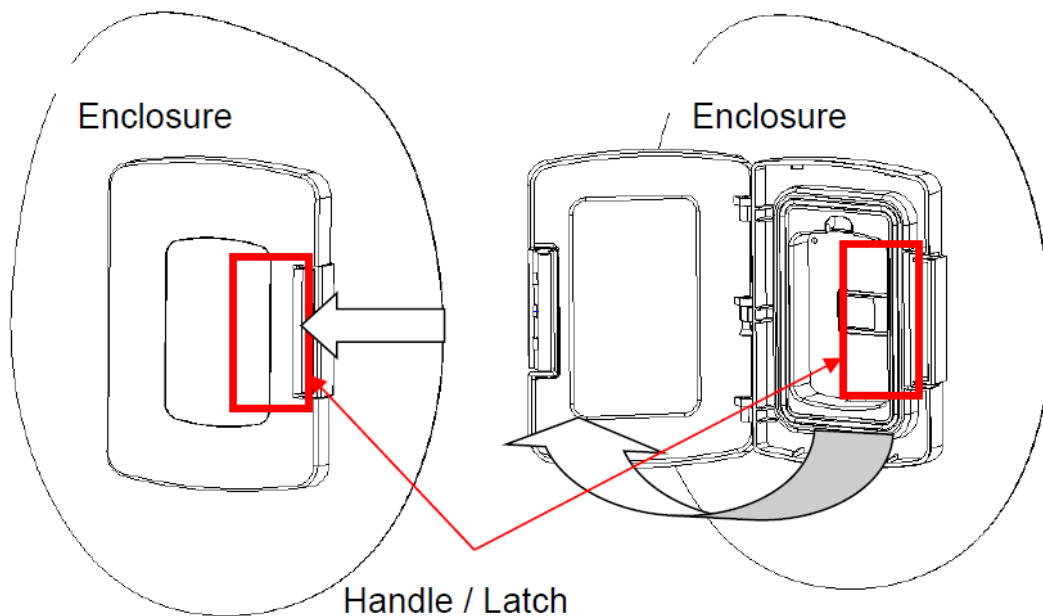

Figure 2. Mounting Position
4. Position the cover on the enclosure panel as show in Figure 2 with the Handle / Latch on the right and the hinges on the left.